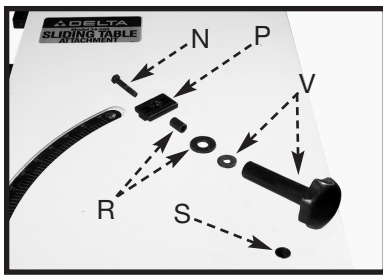

Fig. 39
15. Place the special threaded bolt (N) Fig. 39 through the hole in the slide bracket (P) and the spacer and flat washer (R), then through the bushing (S) in the table and frame. Fasten in place with a flat washer and knob (V) from underneath the table. Make sure that the hex head on the bolt seats in the hex on the slide bracket.